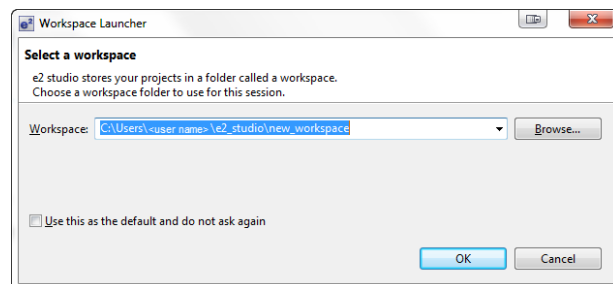

Figure 2.3 Workspace Launcher dialog
- B. Enter a new workspace name in the Workspace Launcher dialog as shown in Figure 2.3. e² studio creates a new workspace with this name.